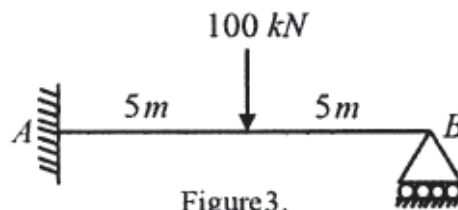

Figure 3.
b) Determine the prop reaction of the propped cantilever beam AB as shown in Figure 3 using flexibility matrix method. Take $EI = \text{constant}$ [6]